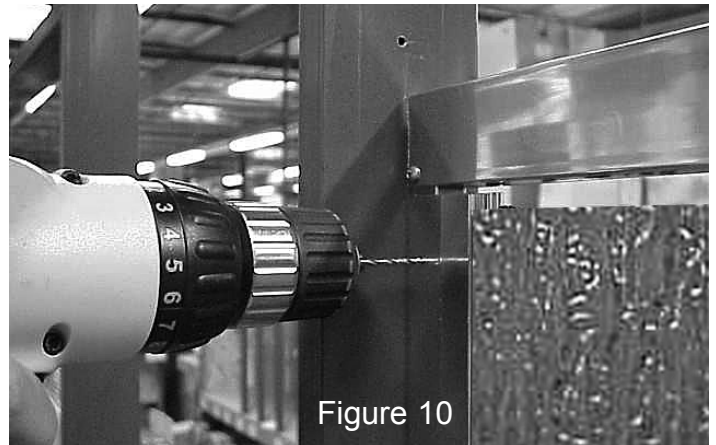

Figure 10
D. Temporarily install the Frameless Glass Door with CW® Rotary Gear Hinge Assembly (#4) into the Slip Jamb Male (#5). Position and level the door so that the Handle (#7) lines up with the 1-1/2" Magnetic Catch (#12) on the Insert Jamb (#3) (See IPB drawing). Mark and drill three installation holes. Insert the top, #6 x 1/4" "B"- Point Screw (#20) only at this time (See Figure 10). Make sure that the door is level. Secure the CW® Rotary Gear Hinge Assembly (#4) into the Slip Jamb Male (#5) with the remaining two #6 x 1/4" "B"- Point Screws (#20).